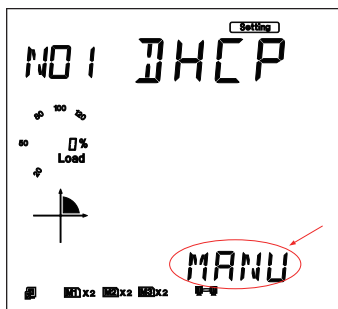

Fig 5-29
3. Set configuration mode in the first setting page. "AUTO" means that users configure module settings with DHCP protocol while "MANU" means that users configure module settings with manual setting. Press "V/A" key, to go to the setting state and the area pointed out in Figure 5-29 will flash. Press "P" key or "E" key to select configuration mode, press "V/A" key to accept. Press the "P" key again to go to the second setting page for IP Address.